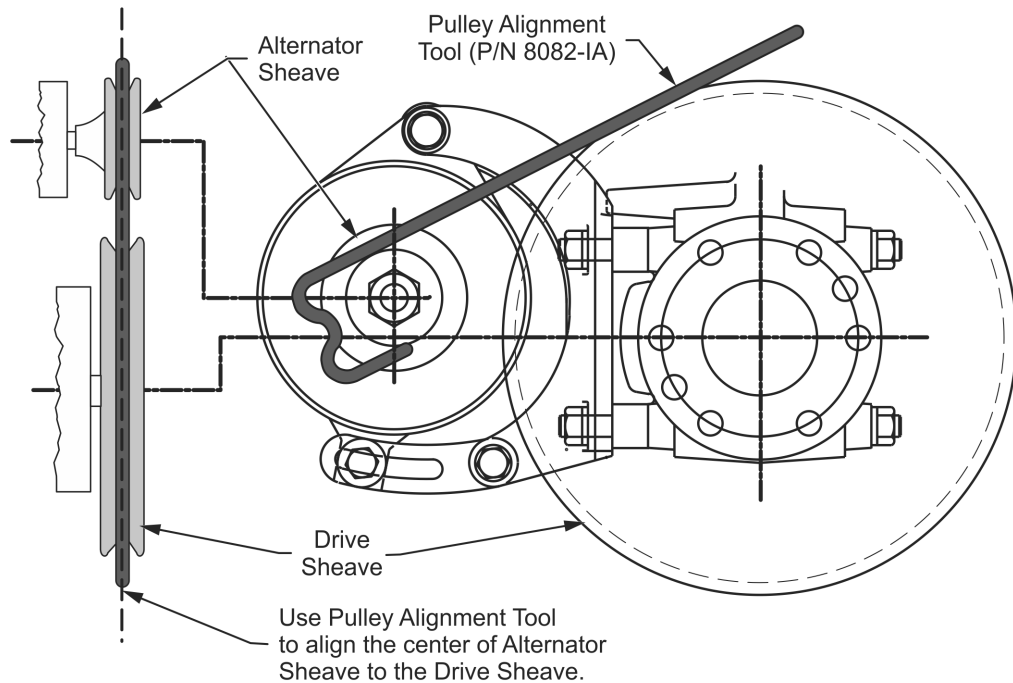

Figure 3. Pulley Alignment Tool (P/N 8082-IA), typical
3. Check the alignment of the alternator (12) sheave to the propeller flange sheave with a pulley alignment tool, (P/N 8082-IA, or equivalent, see Figure 3).